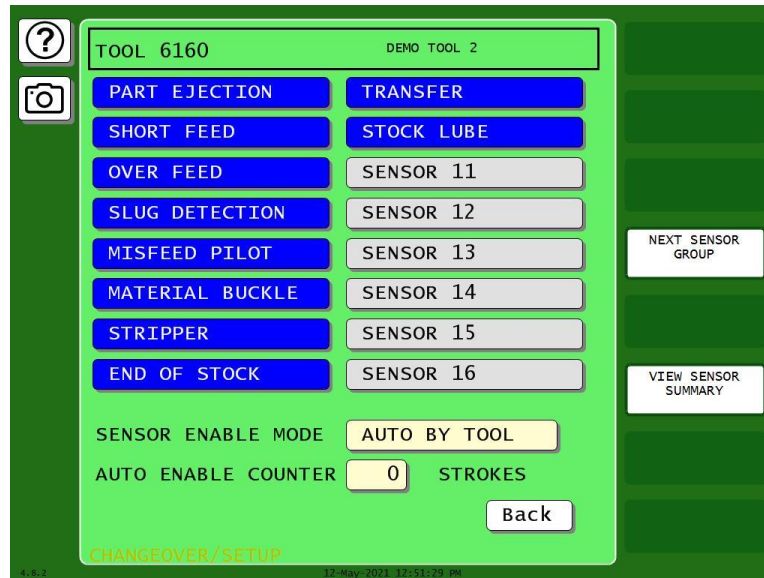

Figure 6-10. Die Protection Tool Programming Screen for Tool 6160 Showing Sensor Enable Mode
1. In the Die Protection Program screen for the desired tool, Figure 6-10, press the **SENSOR ENABLE MODE** item repeatedly until **AUTO BY TOOL** appears